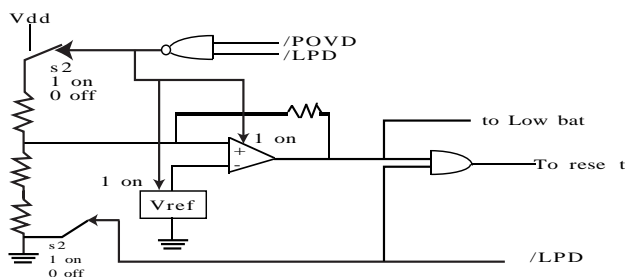

Fig. 6 The relation between /LPD,/POVD
- The relation between /LPD,/POVD and /LOW\_BAT can see Fig 6.